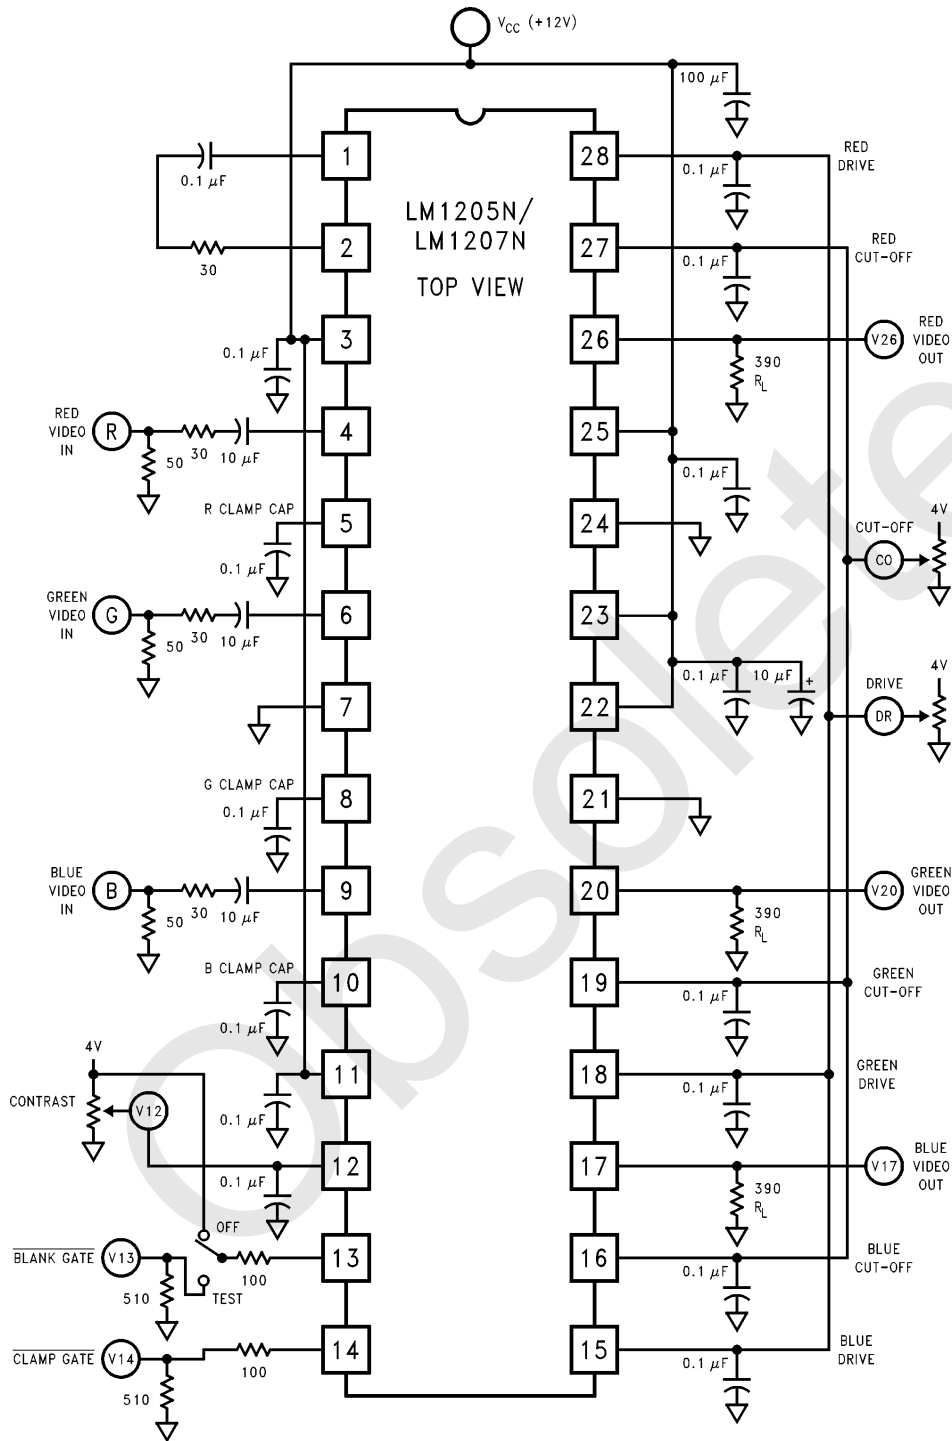

FIGURE 2. LM1205N/LM1207N DC Test Circuit
**DC Electrical Characteristics** See DC Test Circuit (Figure 2),  $T_A = 25^\circ\text{C}$ ;  $V_{CC1} = V_{CC2} = 12\text{V}$ ,  $V_{12} = 4\text{V}$ ;  $V_{14} = 0\text{V}$ ;  $V_{\text{cut-off}} = 1.0\text{V}$ ;  $V_{13} = 4\text{V}$ ;  $V_{\text{drive}} = 4\text{V}$  unless otherwise stated.
**Note 7:** The supply current specified is the quiescent current for  $V_{CC1}$  and  $V_{CC2}$  with  $R_L = \infty$ , see Figure 2's test circuit. The supply current for  $V_{CC2}$  (pin 23) also depends on the output load. With video output at 1V DC, the additional current through  $V_{CC2}$  is 8 mA for Figure 2's test circuit.